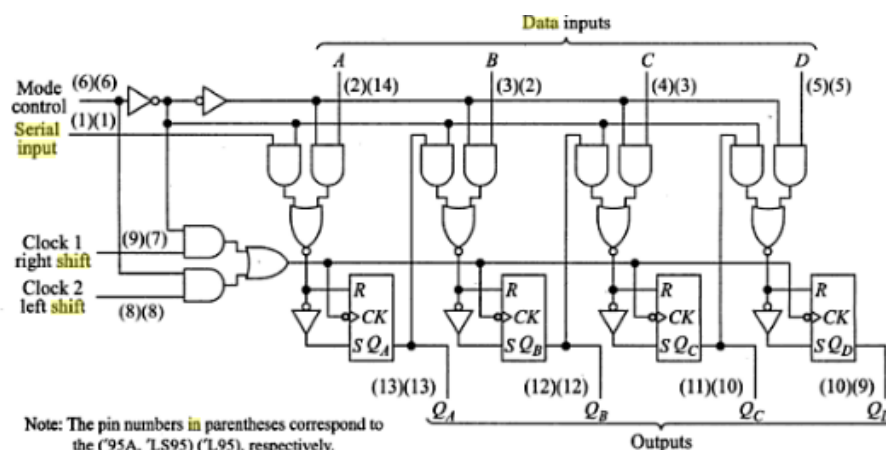

Figure 9.15:54/7495A
- It can be used for entering/removing data in parallel (Figure: 9.15).